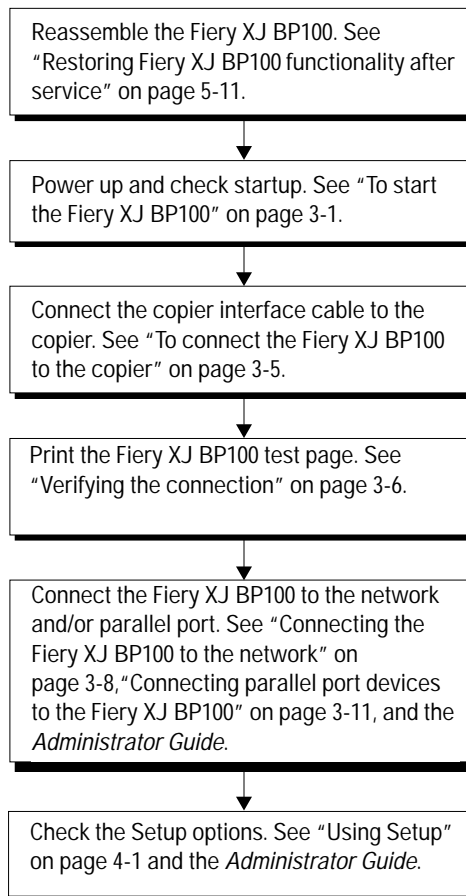

Figure 5-8 Fiery XJ BP100 connection verification steps
5. **Before you leave the customer site, verify Fiery XJ BP100 operation as outlined in Figure 5-8.**